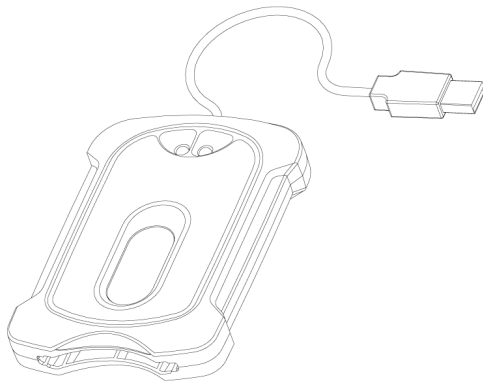

FIGURE 5: CARVEWRIGHT
- CarveWright Memory Card Programmer (Figure 5)